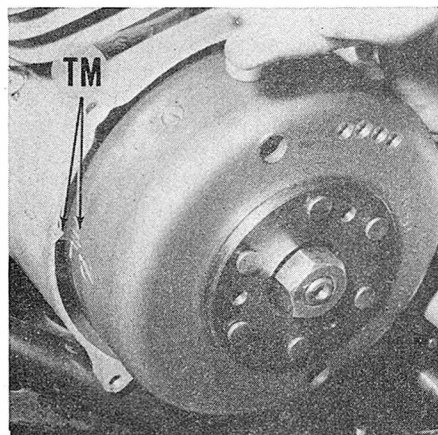

Fig. S12-5—Timing marks of TS 250 R model. Use a power timing light and an engine speed of 4000 RPM to check PEI models.
inch. Ignition should occur (points just open) at 21 degrees BTDC. Piston will be 2.7 MM (0.106 inch) BTDC and mark on flywheel will align with punch mark on crankcase at this time. Timing marks are at approximately same position as on PEI model in Fig. S12-5.
**IGNITION INSPECTION AND ADJUSTMENT OF PEI (POINTLESS ELECTRONIC IGNITION) MODELS.** The TS 250 R is equipped with a capacitor discharge ignition system. After initial installation, further adjustment should not be necessary, however, timing may be inspected with a power timing light. Timing marks (TM—Fig. S12-5) should align at 4000 RPM. If stator plate has been removed, timing may be reset by installing base plate (1—Fig. S12-6) with stamped line on plate aligned with center of mounting screw (2). Recheck with power timing light after installation.